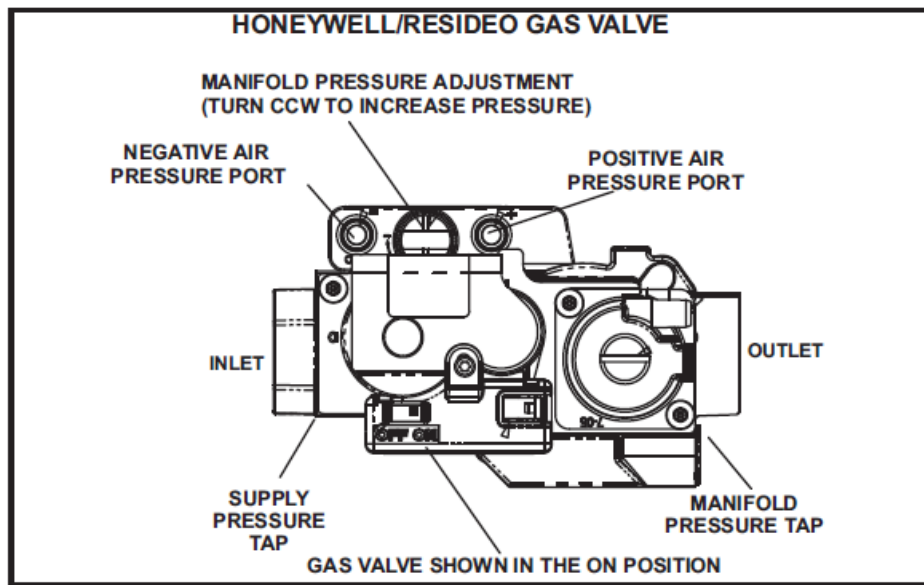

FIGURE 3
Operating the Gas Valve (Figure 3)
6. Move switch on gas valve to OFF. Do not force. See figure 3.
4. Move the switch on gas valve to OFF. Do not force. See figure 3.